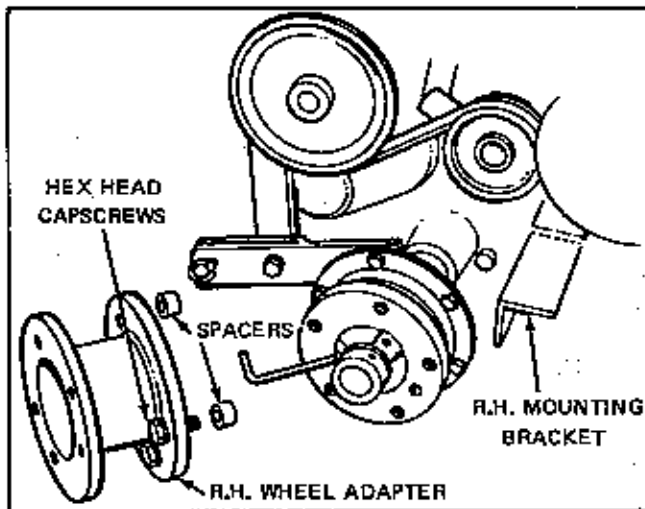

Figure 2.
The right wheel adapter requires the (5) No. 105133 spacers using the (5) 7/16 x 20 x 1-1/2" hex head capscREW. See Figures 2 and 3.